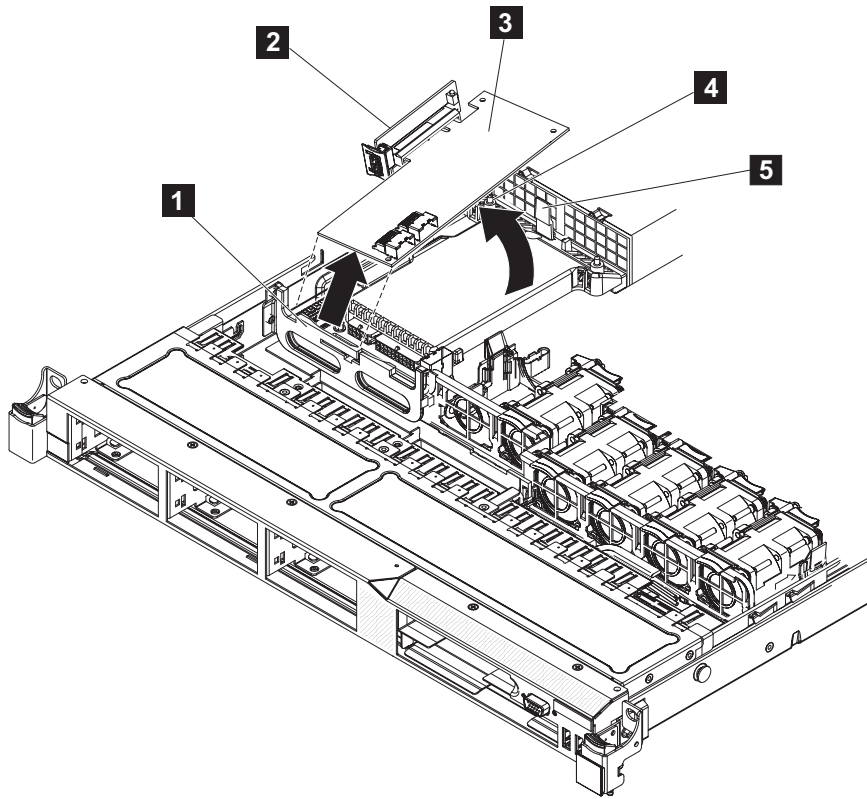

Figure 199. Disengaging the disk-controller front-retention bracket and removing the riser assembly and disk controller
11. Pull up on the disk controller (**3** in Figure 199) until the disk-controller and USB riser-card assembly (**2**) disengages from the connector on the system board.